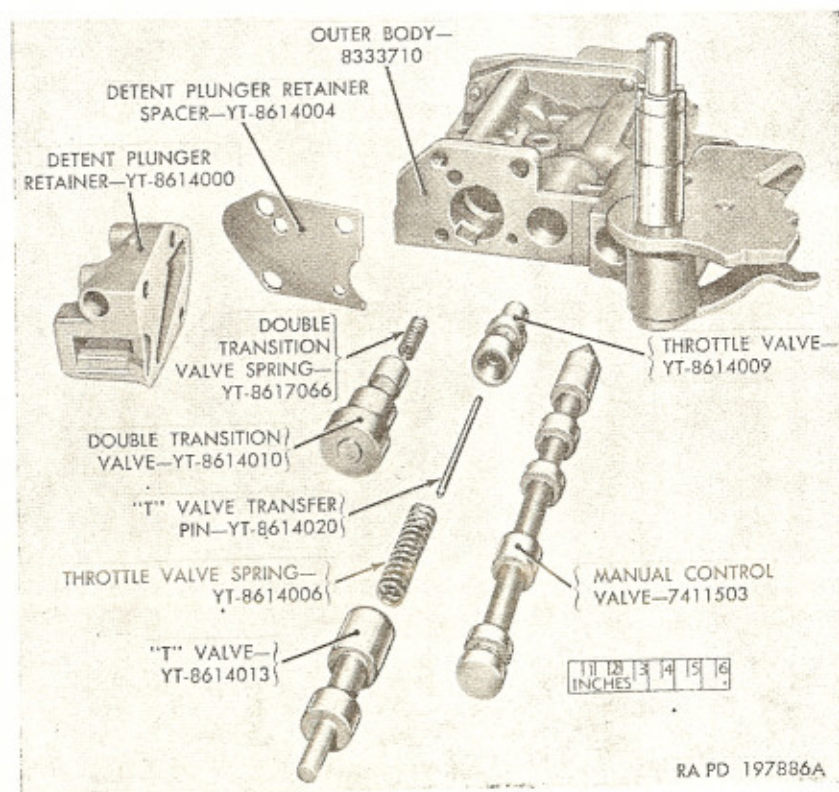

Figure 61. Detent plunger retainer and valves removed from valve outer body.
- d. Install exhaust body (G) with exhaust body plate (H) on outer body (M). Contour of exhaust body plate must match contour of exhaust body. Install exhaust body valve spring retainer (E) and No. 10 x 5/8 screw with lock washer (D) at small end of exhaust body. Install two No. 10 x 1 screws with lockwashers (F) at other end of exhaust body; then tighten all three screws to 3 to 4 pound-feet torque.
- e. Install double transition valve spring (FF) and double transition valve (EE) in outer body (M).
- f. Install throttle valve (GG), "T" valve transfer pin (DD), throttle valve spring (CC), and "T" valve (V) in outer body (M) (fig. 61). Check each part in body bore for freeness.
- g. Install detent plunger retainer (X) and detent plunger retainer spacer (W) on outer body (M) and attach with three screws with lockwashers (AA, BB, and KK). Install No. 10 x 3/4